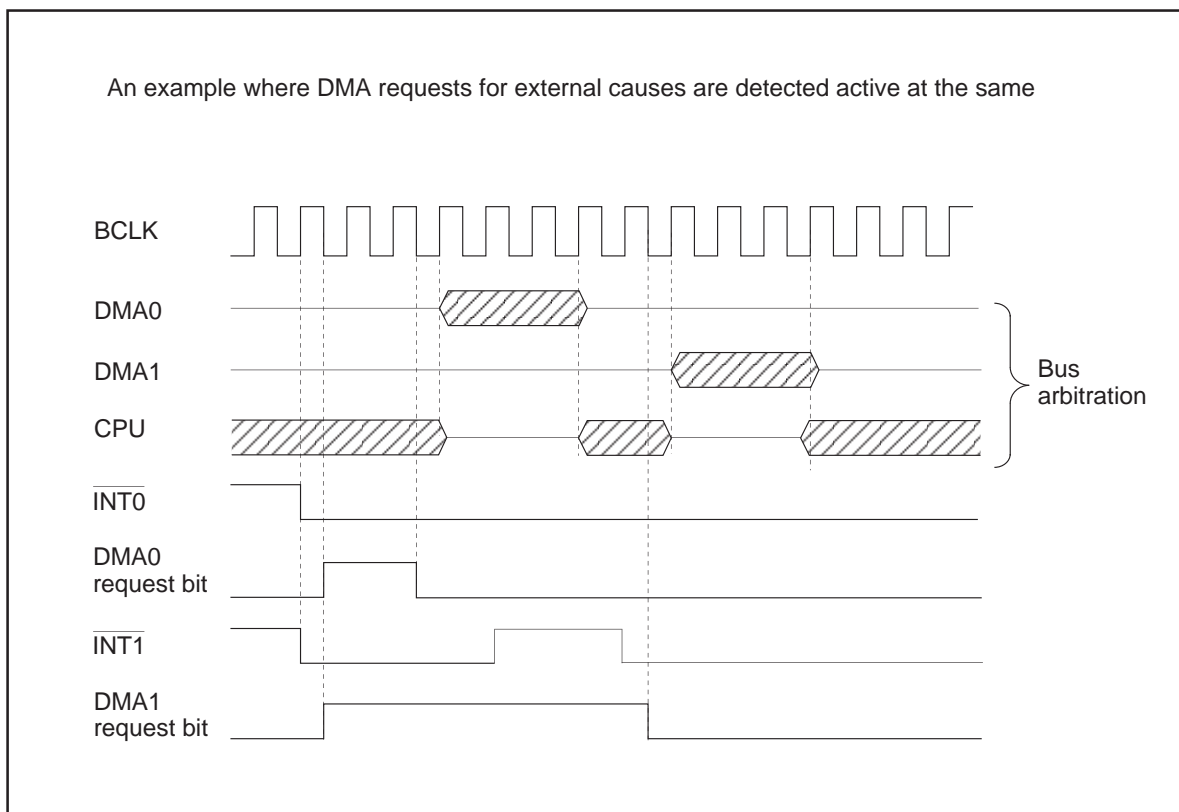

Figure 2.9.6. DMA Transfer by External Factors
If both DMA0 and DMA1 are enabled and DMA transfer request signals from DMA0 and DMA1 are detected active in the same sampling period (one period from a falling edge to the next falling edge of BCLK), the DMAS bit on each channel is set to "1" (DMA requested) at the same time. In this case, the DMA requests are arbitrated according to the channel priority, DMA0 > DMA1. The following describes DMAC operation when DMA0 and DMA1 requests are detected active in the same sampling period. Figure 2.9.6 shows an example of DMA transfer effected by external factors.
In addition, DMA requests cannot be counted up since each channel has one DMAS bit. Therefore, when DMA requests, as DMA1 in Figure 2.9.6, occurs more than one time, the DMAS bit is set to "0" as soon as getting the bus arbitration. The bus arbitration is returned to the CPU when one transfer is completed. Refer to "(7) Hold Signal in 2.4.2 Bus Control" for details about bus arbitration between the CPU and DMA.